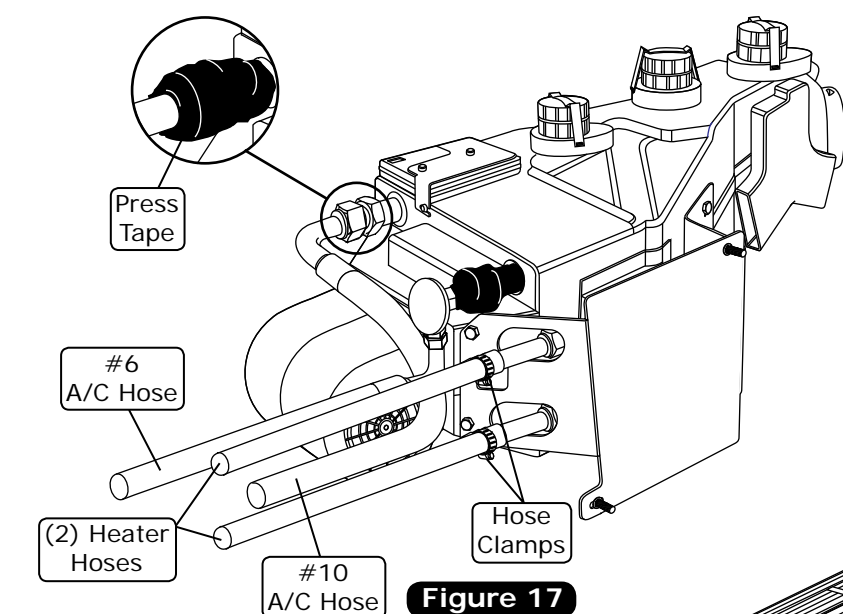
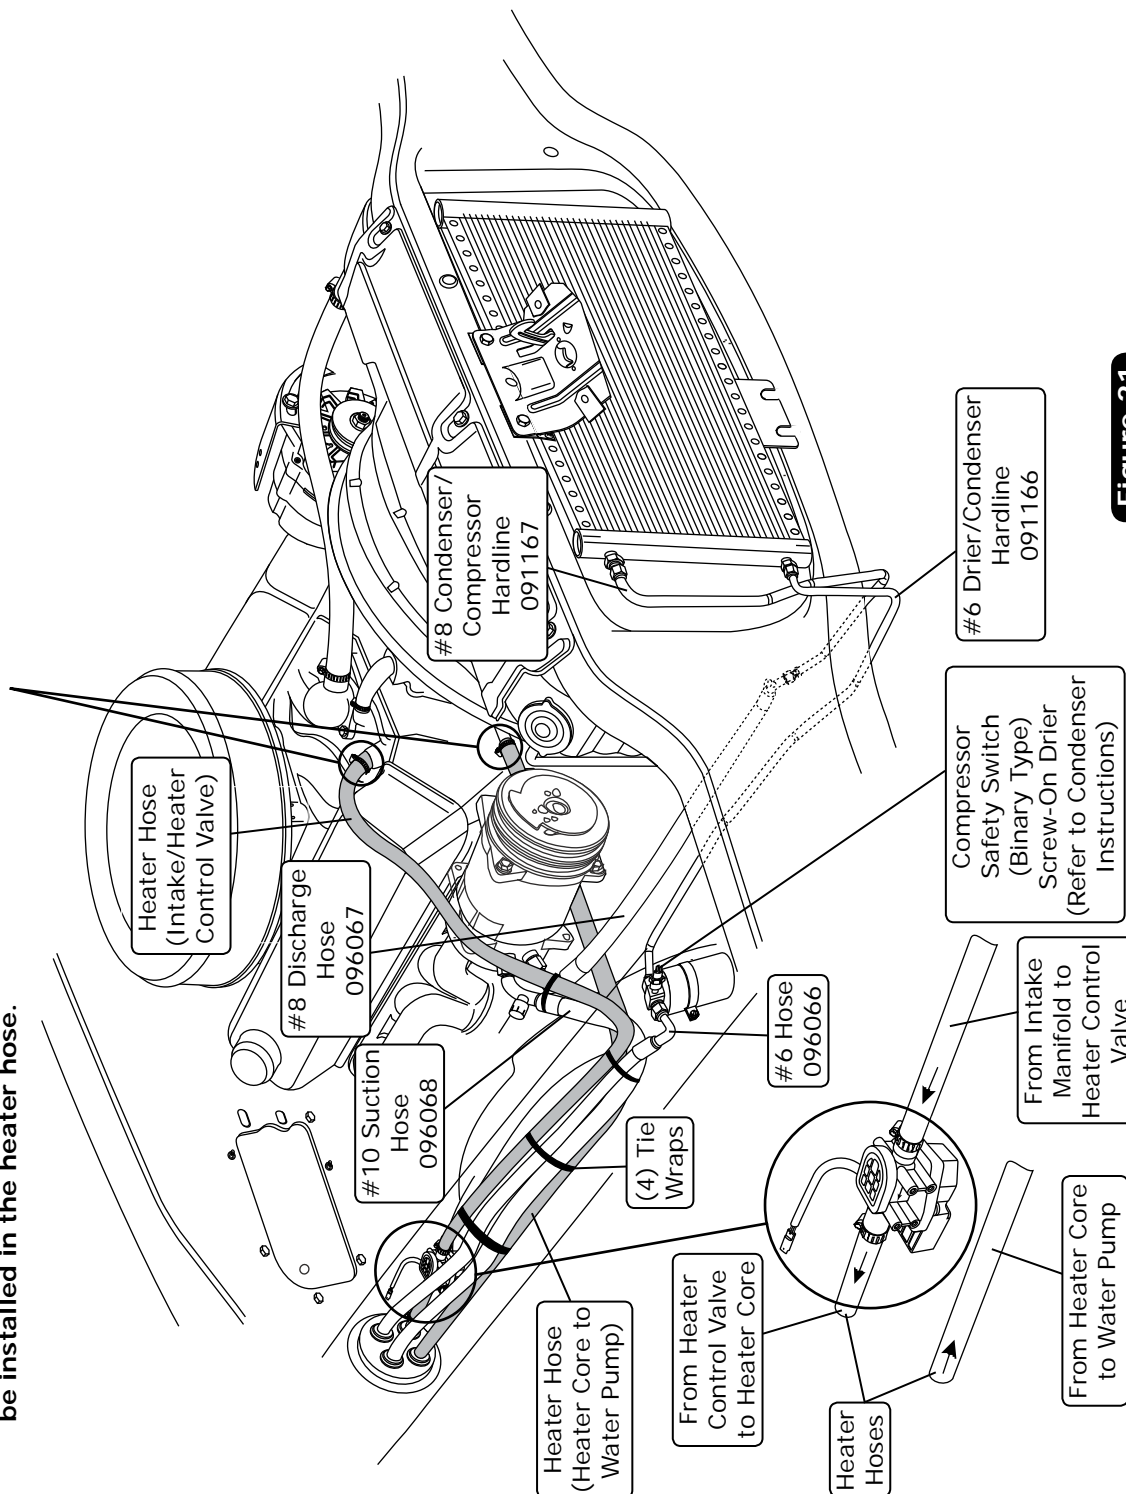

Figure 17
Figure 21
4. Place the evaporator sub case on the passenger side floorboard. Using properly lubricated O-rings, install the A/C hoses onto the evaporator (See Figure 20, Page 19, and Figure 17, Page 18). **NOTE: Wrap the #10 fitting connections with press tape (See Figure 17, Page 18).**
5. Install the heater hoses, securing them with hose clamps (See Figure 17, Page 18).
1. Locate the #8 compressor A/C hose. Lubricate (2) #8 O-rings (See Figure 20, above) and connect the 90° fitting to the #8 discharge port on the compressor. Then route the 45° fitting with service port to the #8 condenser hardline coming through the core support (See Figure 21, Page 20). Tighten each fitting connection as shown in Figure 20, above.
2. Locate the #10 compressor A/C hose. Lubricate (2) #10 O-rings (See Figure 20, above) and connect the 45° fitting with service port to the #10 suction port on the compressor. Then route the 90° fitting to the #10 fitting on the evaporator (See Figure 17, Page 18, and Figure 21, Page 20). Tighten each fitting connection as shown in Figure 20, above.
3. Locate the #6 evaporator A/C hose. Lubricate (2) #6 O-rings (See Figure 20, above) and connect the 90° fitting to the drier. Then route the 90° fitting to the #6 fitting on the evaporator (See Figure 17, Page 18, and Figure 21, Page 20). Tighten each fitting connection as shown in Figure 20, above.
1. Route a piece of heater hose from the water pump to the left heater core fitting as shown in Figure 13, Page 15, and Figure 21, below. Secure using hose clamps.
2. Route a piece of heater hose from the intake to the heater control valve, and from the heater control valve to the right heater core fitting as shown in Figure 13, Page 15, and Figure 21, below. **NOTE: Install the heater control valve in line with the intake manifold (pressure side) heater hose, and secure using hose clamps. Also note proper flow direction.**